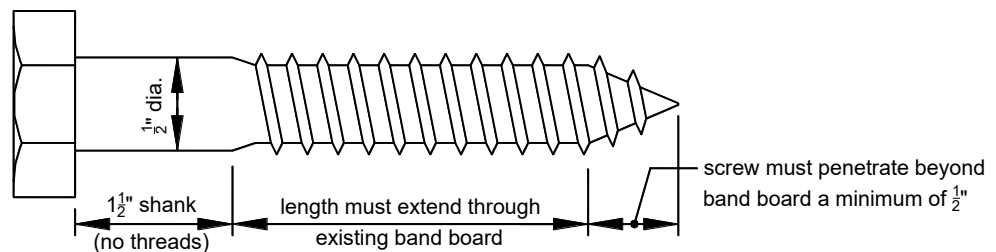

FIGURE 17: LAG SCREW
**Lag screws.** Lag screws shall be hot-dipped galvanized or stainless steel with a ½-inch minimum diameter. Length and shank requirements shall be in accordance with FIGURE 17. Lag screws shall be equipped with washers and installed in the sequence below.